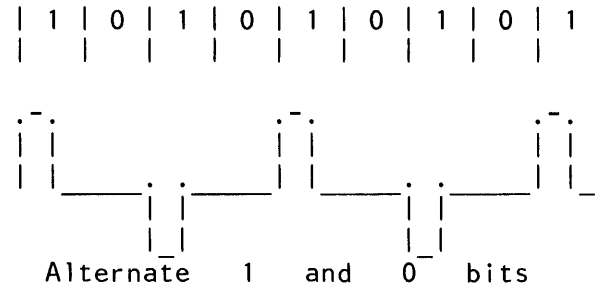

Figure 2
Do the waveshapes compare with Figure 2 and is the amplitude 1.33 V or more?
- See Figure 3 if the waveshapes do not compare to Figure 2.